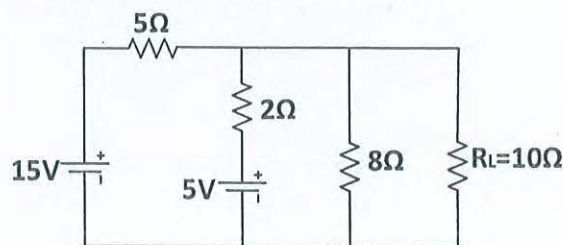

Figure 7
5. Construct the smallest equivalent circuit for the circuit given in Figure 7, [one voltage source and a resistor] with respect to the load resistor R_L . [25]
6. Construct the smallest equivalent circuit for the circuit given in Figure 7, [one current source and a resistor] with respect to the load resistor R_L . [25]